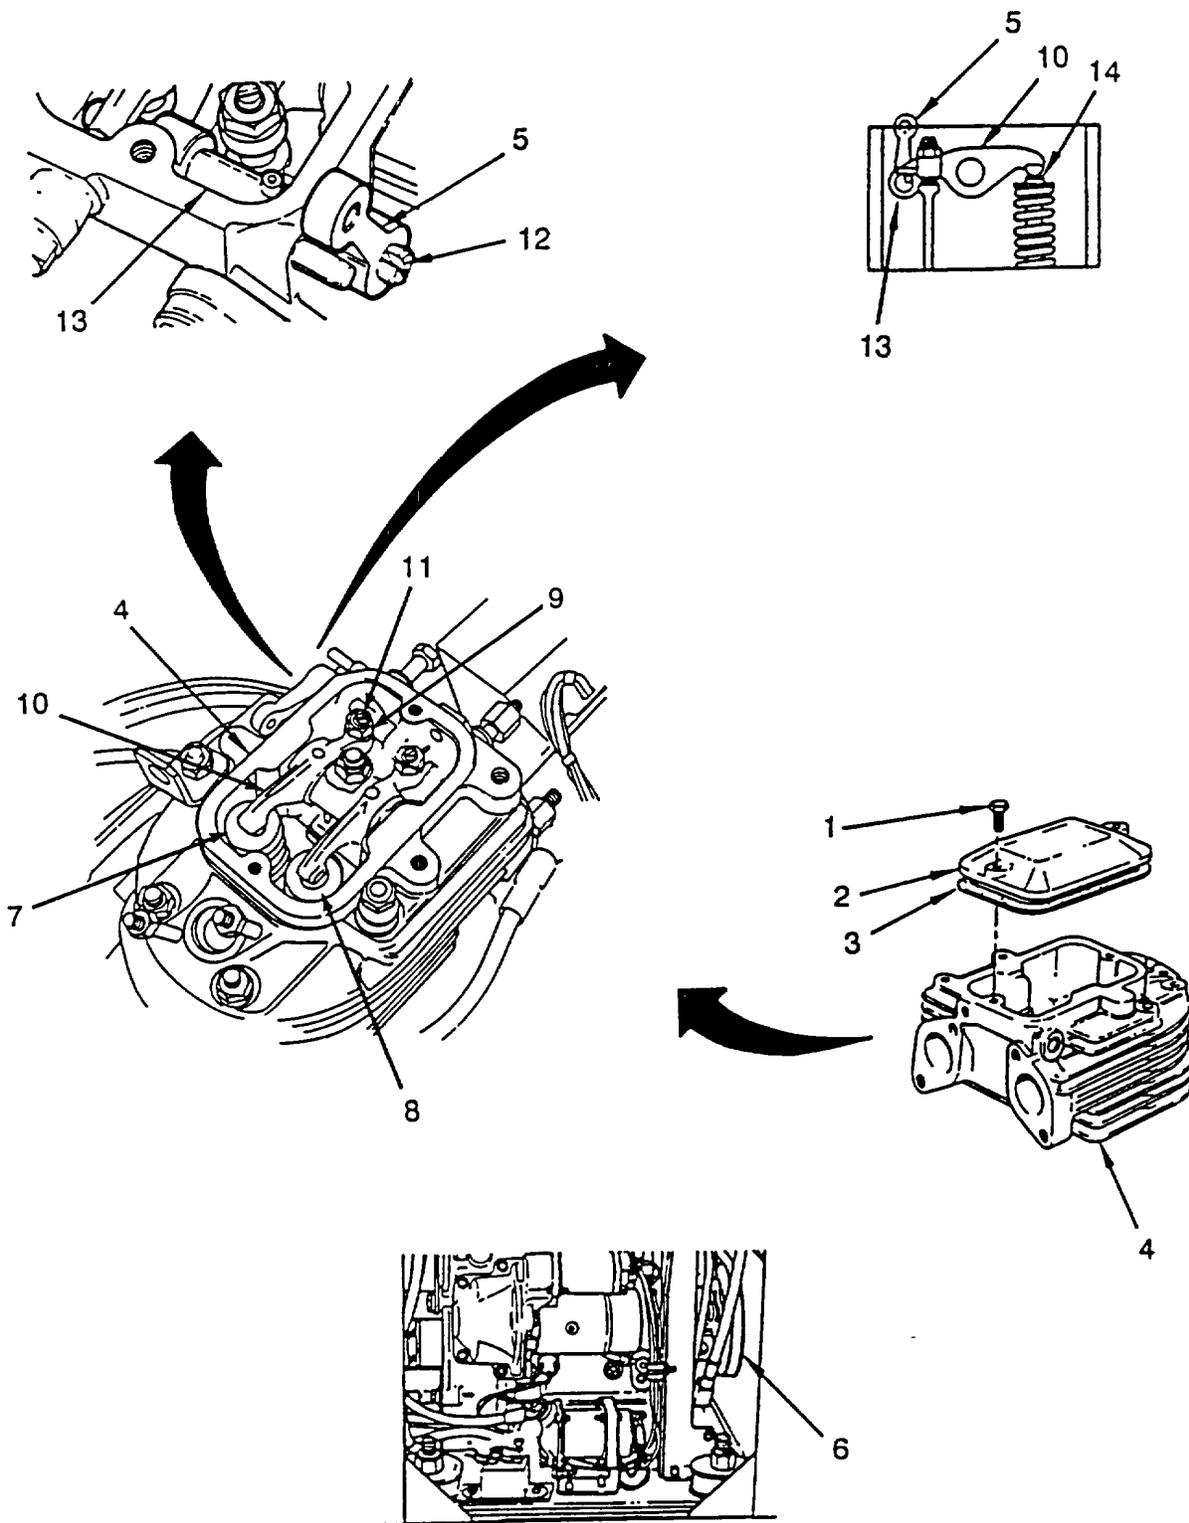

Figure 5-24. Intake and Exhaust Valves and Decompression Lever Adjustment
## (1) Removal. (Refer to Figure 5-24).
- (a) Remove two screws (1), cover (2), and gasket (3) from cylinder head(4).
- (b) Clean excess gasket material (3) off of cylinder head (4) and cover (2).